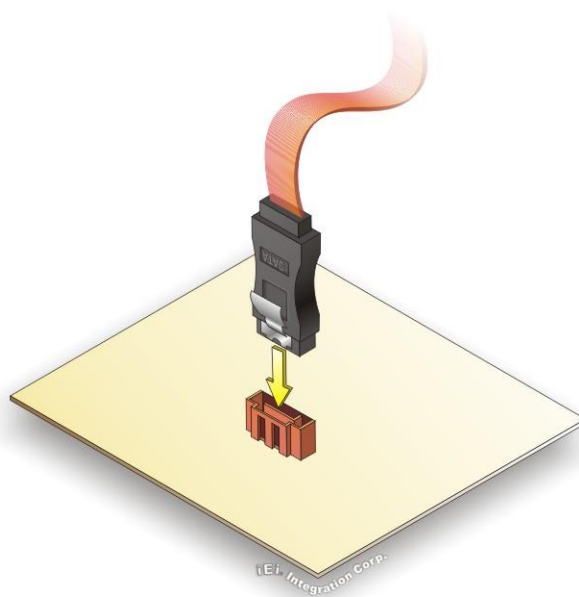

Figure 4-10: SATA Drive Cable Connection
Step 2: **Insert the cable connector.** Insert the cable connector into the on-board SATA drive connector until it clips into place. See **Figure 4-10**.